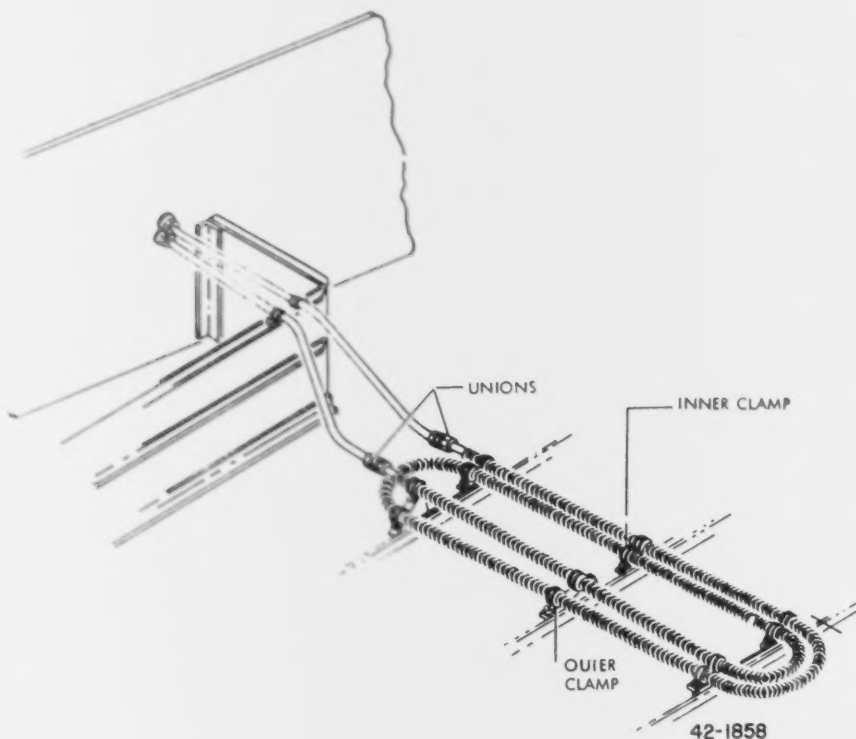
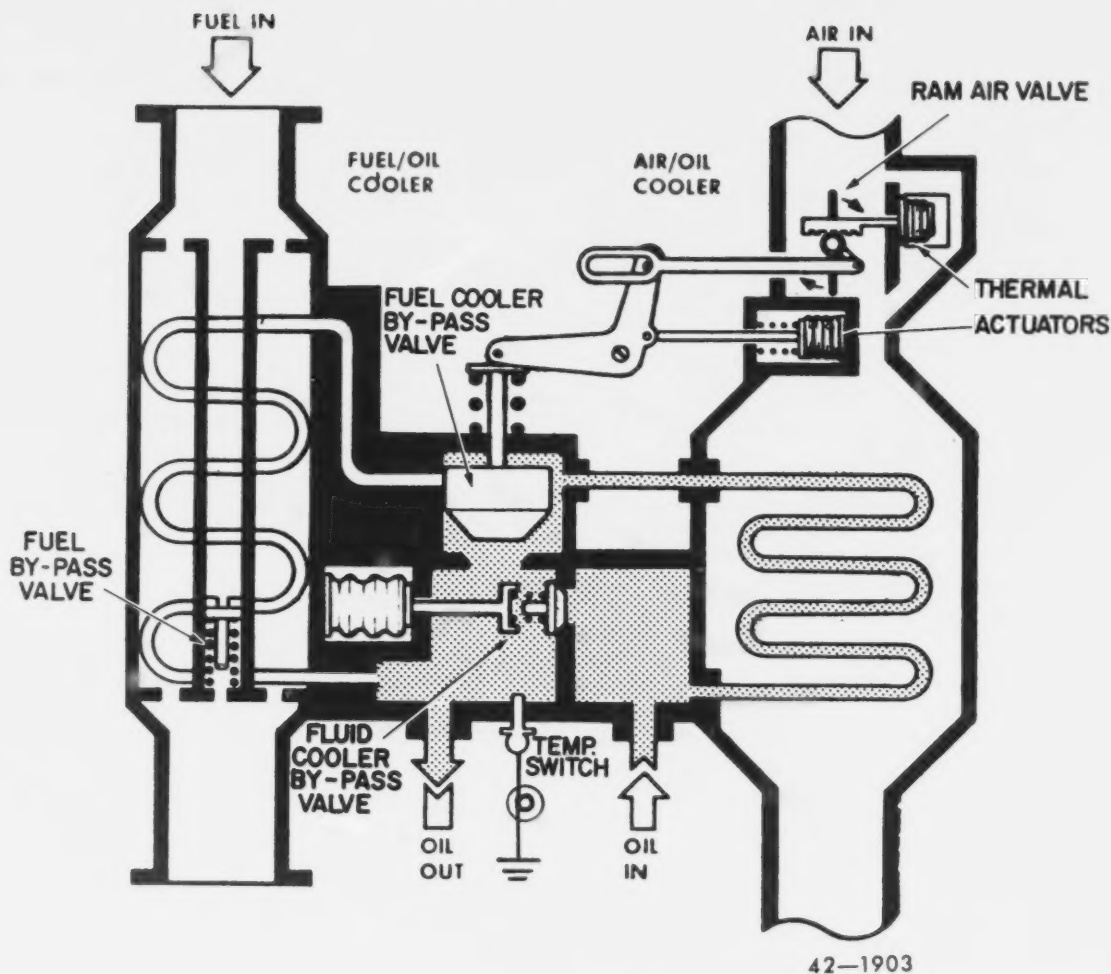

Figure 2-24. Cooling coil with fins.
Figure 2-25. Fluid cooler.
415. Specify constructional and operational features of fluid coolers; and, given selected situations, use figure 2-25 to determine what valves would be open and closed.
Hydraulic Fluid Coolers. These items are used in the hydraulic systems for the purpose of lowering the temperature of the fluid within the system. Fluid coolers are normally located in the return lines to cool the fluid as it flows back to the reservoir. Several types of fluid coolers are used on aircraft. One of the simplest types of fluid coolers consists of thin walled tubing with fins. (See fig. 2-24). The heat is transferred from the fluid through the tubing to the fins. Air flow (or, in some cases, fuel) is used to pick up the heat from the fins. Notice in figure 2-24 that the finned tubing is routed through a fuel cell. The heat of the hydraulic fluid is absorbed by the fuel in the cell, heating the fuel to make it more volatile. This allows the fuel to burn more efficiently. Sometimes this tubing is placed inside a housing, as shown in figure 2-25. With this type of system, the hydraulic fluid is cooled by dissipating the heat into the air for fuel or both. Follow along as we trace the flow of fluid through this type of cooler.
The three thermal actuators shown in figure 2-25 will expand when heated and contract when cooled, and, as they do, will actuate various valves in the cooler. There is an oil inlet port and an oil outlet port, with a fluid cooler bypass valve, which will be open when the temperature is low or the inlet pressure is high. Notice that the air passes through a ram air valve (butterfly valve), past the thermal actuators, and around the cooling coils, then exits out the bottom. The fuel enters through the fuel inlet port and flows through several pencil-size passages, around the cooling coils, and exits out the bottom. Notice that a fuel bypass valve is installed to bypass the fuel in case the fuel passages become clogged. A fluid-cooler bypass valve is installed to bypass the fuel cooler when the temperature of the air in the air cooler is low. A temperature switch located at the bottom of the fluid cooler causes a caution light in the cockpit to come on if fluid temperature rises too high.
5. Using figure 2-25 and the situations below, determine which valves are open and which are closed.